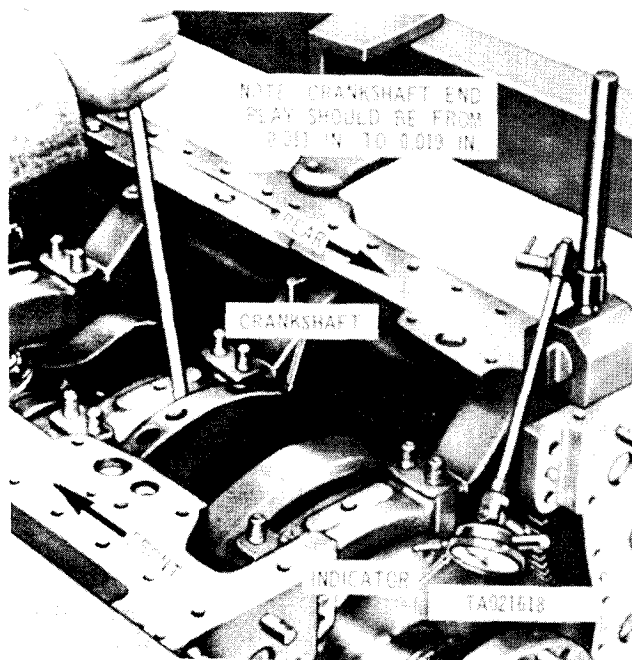

Figure 3-310. Checking crankshaft end play.
k. Mount a dial indicator (fig. 3-310) on crankcase so indicator point contacts drive gear flange on crankshaft. Using a heavy duty screwdriver, wedge between main bearing cap and crankshaft counterweight, push crankshaft toward front end. Set indicator on zero reading ("0"). Using a heavy duty screwdriver, push crankshaft toward the rear of crankcase and check indicator end play reading. End play should be from 0.011 to 0.019 inch. When end play exceeds 0.019 inch, remove bearing caps and crankshaft. Install new main thrust bearing halves. Install bearing cap and recheck thrust bearing bore (para 3-45d). Then install bearing halves and crankshaft, and recheck end play to make sure it is within limits.